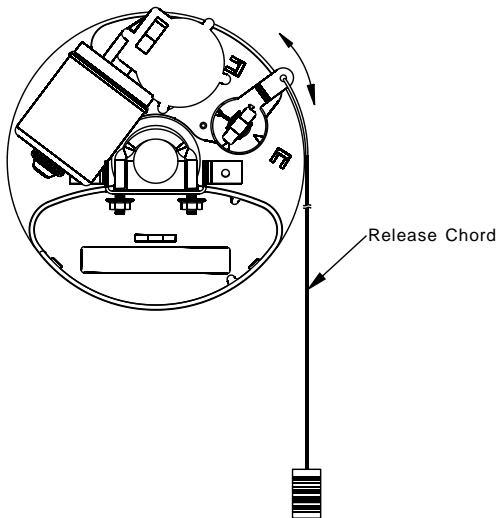

Fig 11
- 2.7 If not already disengaged then disengage the AGDO Drive Unit by pulling once on the release lever (Fig.11) - the forked drive gear should now rotate freely
- 4.1 To disengage the Drive Unit from the garage door pull down on the Red Release Chord. (Fig.11)